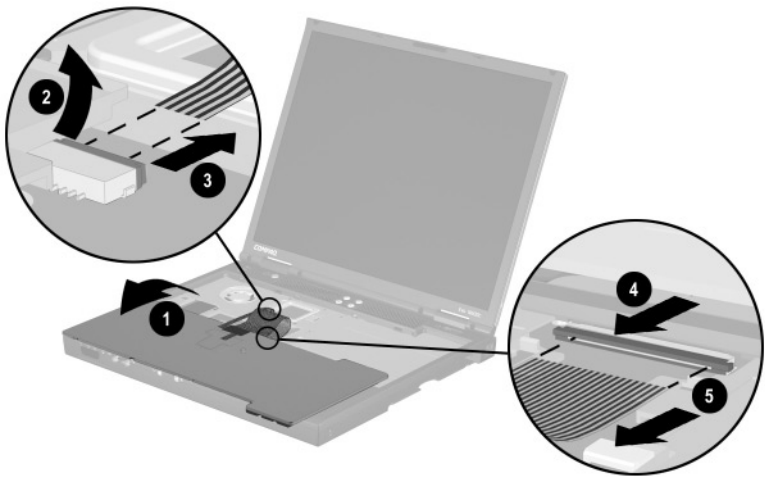

Figure 5-12. Disconnecting the Pointing Device and Keyboard Cables
7. Lift the top edge of the keyboard and swing it up and forward until it rests on the top cover ❶ (Figure 5-12).
9. Release the ZIF connector to which the pointing device cable is attached ❷ and disconnect the pointing device cable ❸.
10. Release the ZIF connector to which the keyboard cable is attached ❹ and disconnect the keyboard cable ❺.